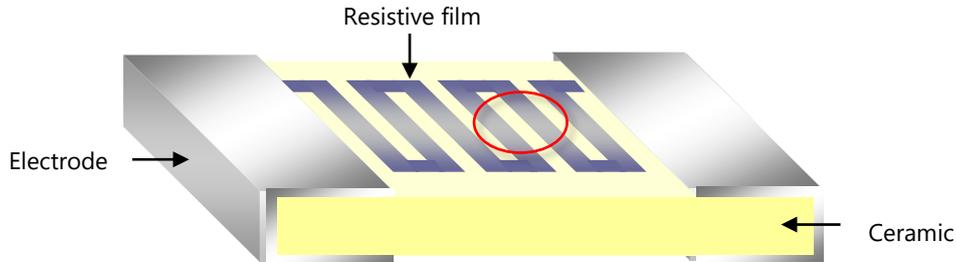
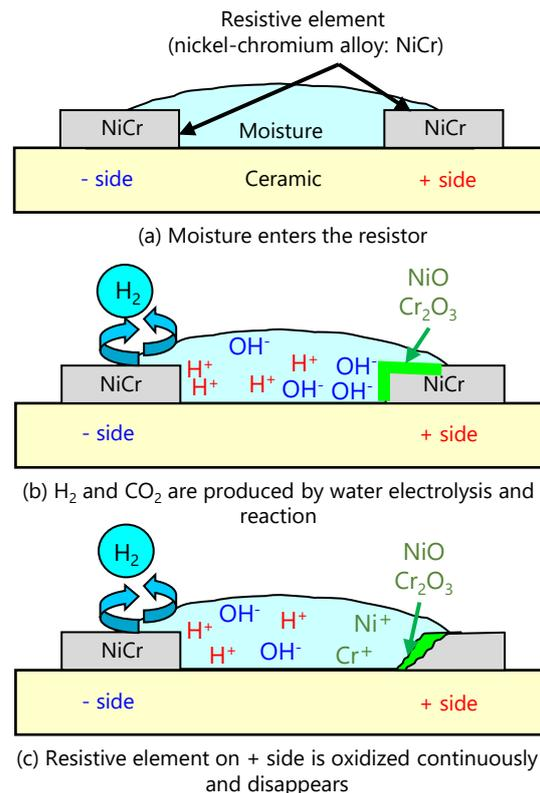

Figure 4 Structure of a metal film resistor
Figure 5 Schematic diagram of electrolytic corrosion in metal film resistors
Figure 4 shows the structure of a metal film resistor. In this diagram, the protective surface coating is omitted to make it easier to see the interior.
Electrolytic corrosion occurs between the turns in the resistive film. The process of electrolytic corrosion in resistors using a nickel-chromium alloy (NiCr) as resistive film is described below. In addition, Figure 5 shows the cross section of the red circled area in Figure 4.
1. Due to deterioration of protective coating etc, moisture penetrates into the component and adheres between the turns in the resistive film (Figure 5(a)).
4. On the positive side (+ side), nickel-chromium alloy (NiCr) in the resistive element reacts with hydroxide ions (OH⁻), leading to the oxidation of nickel and chromium (Figure 5(b)).
5. As this reaction proceeds, the resistive element on the + side is oxidized and disappears, eventually leading to an open circuit (Figure 5(c)).